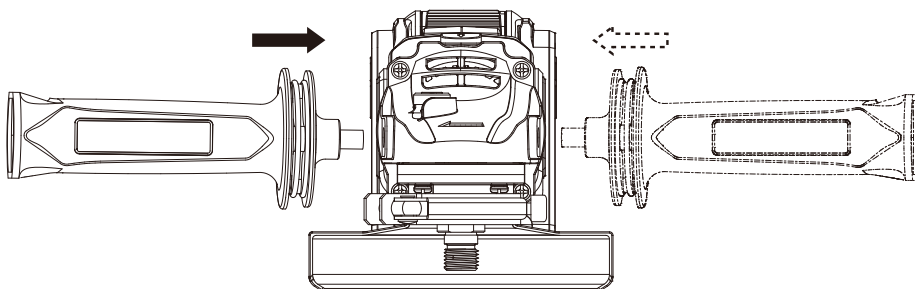

Figure 2
2. INSTALLING AND ADJUSTING AUXILIARY HANDLE (SEE FIG. 2)